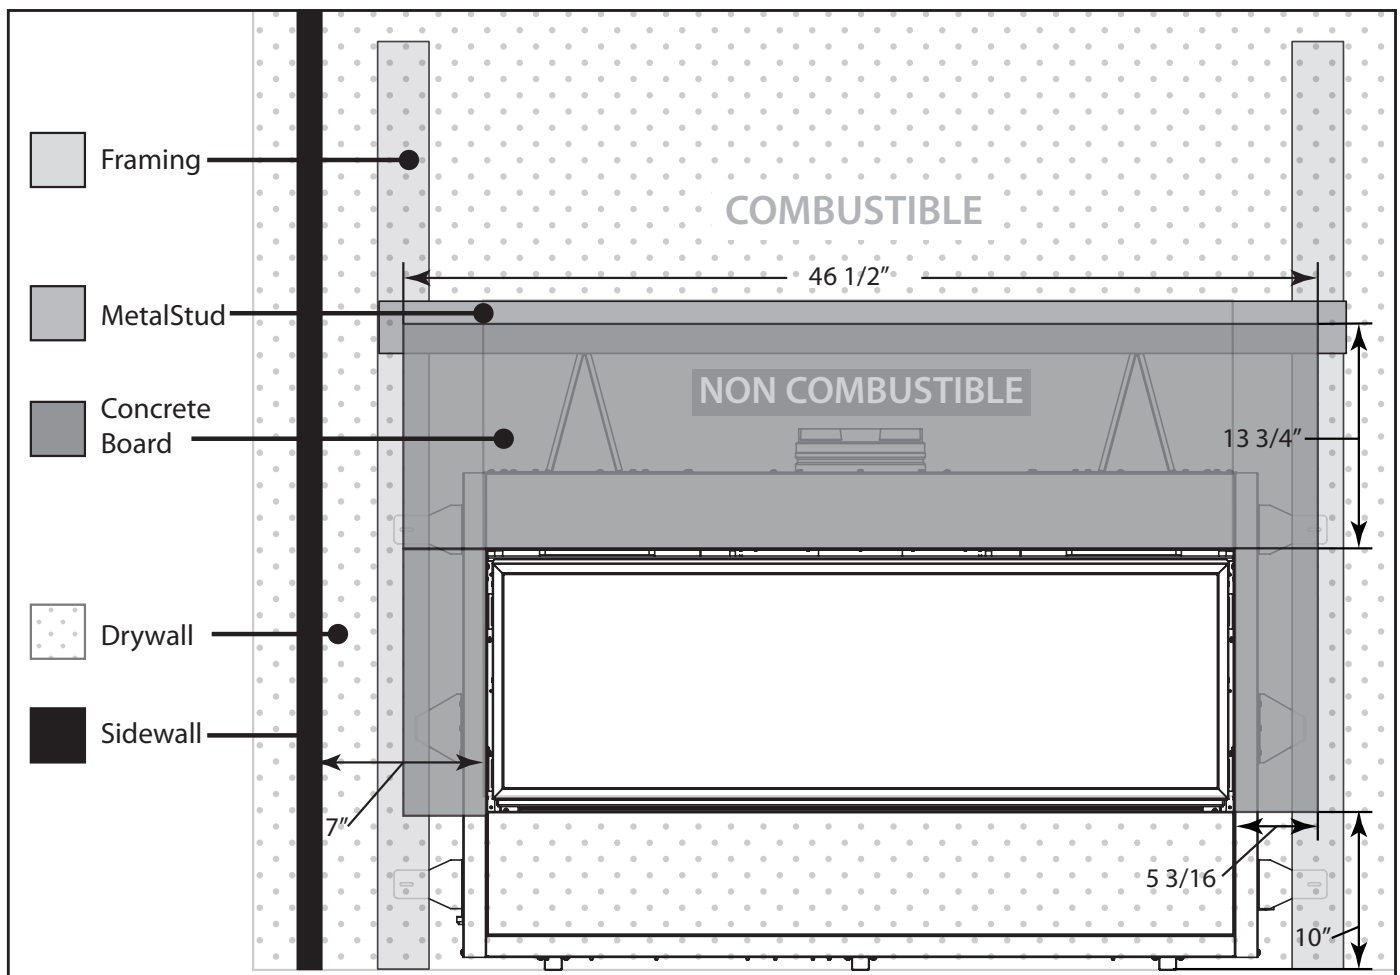

Figure 27. Finishing Non-Combustible Zone
**ABOVE UNIT:** A minimum **13 3/4" (350mm)** of non-combustible facing material must be used above the firebox opening . The non-combustible is only required as shown in Figure 27.